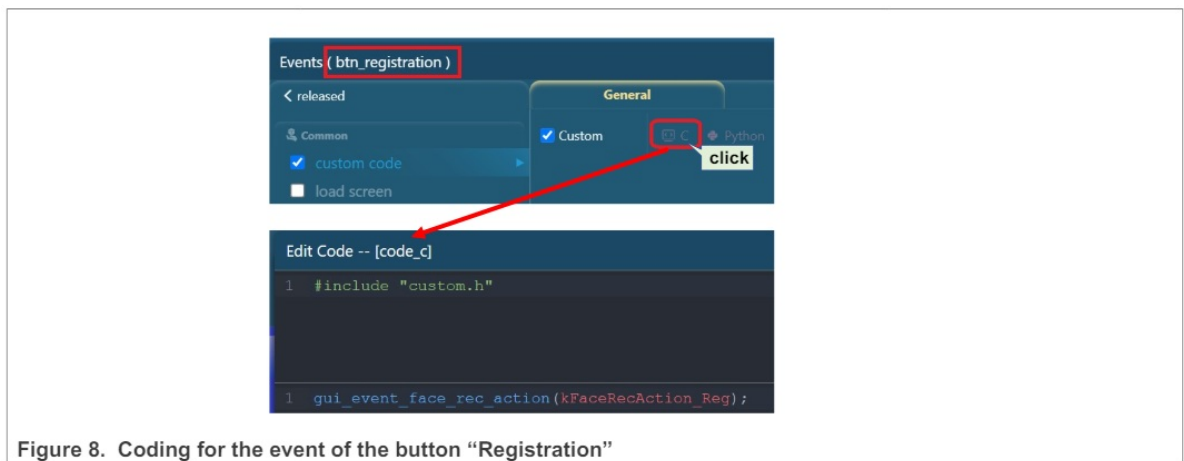

Figure 8. Coding for the event of the button “Registration”
- Add the code line of calling the API `gui_event_face_rec_action()` with different event ID parameter on the “Released” trigger in the Event Setting of all the buttons Registration, Recognition and Delete User for triggering the events of face registration, face recognition and deleting user. Figure 8 shows the code for the event of the button Registration: